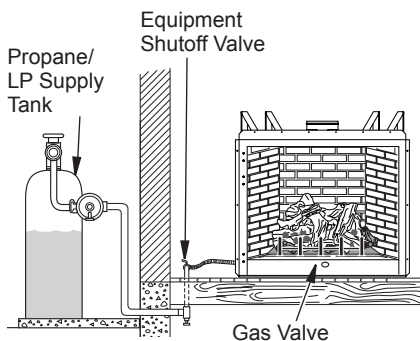
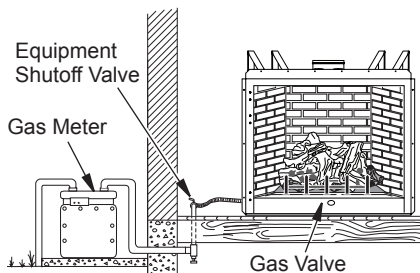

Figure 34 - Checking Gas Joints for Propane/LP Gas Fireplace
Figure 35 - Checking Gas Joints for Natural Gas Fireplace
3. Check all joints from propane/LP supply tank or gas meter to equipment shutoff valve (see Figure 34 or Figure 35, page 22). Apply noncorrosive leak detection fluid to all joints. Bubbles forming show a leak.
4. Check all joints from equipment shutoff valve to gas valve (see Figure 34 or Figure 35, page 22). Apply noncorrosive leak detection fluid to all joints. Bubbles forming show a leak. Correct all leaks at once.